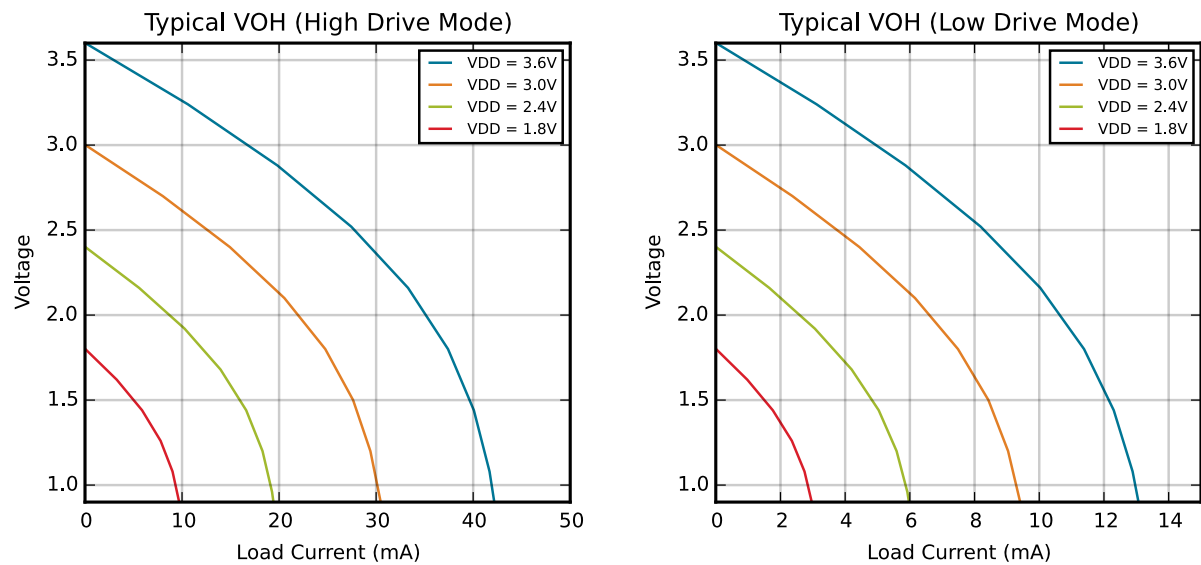
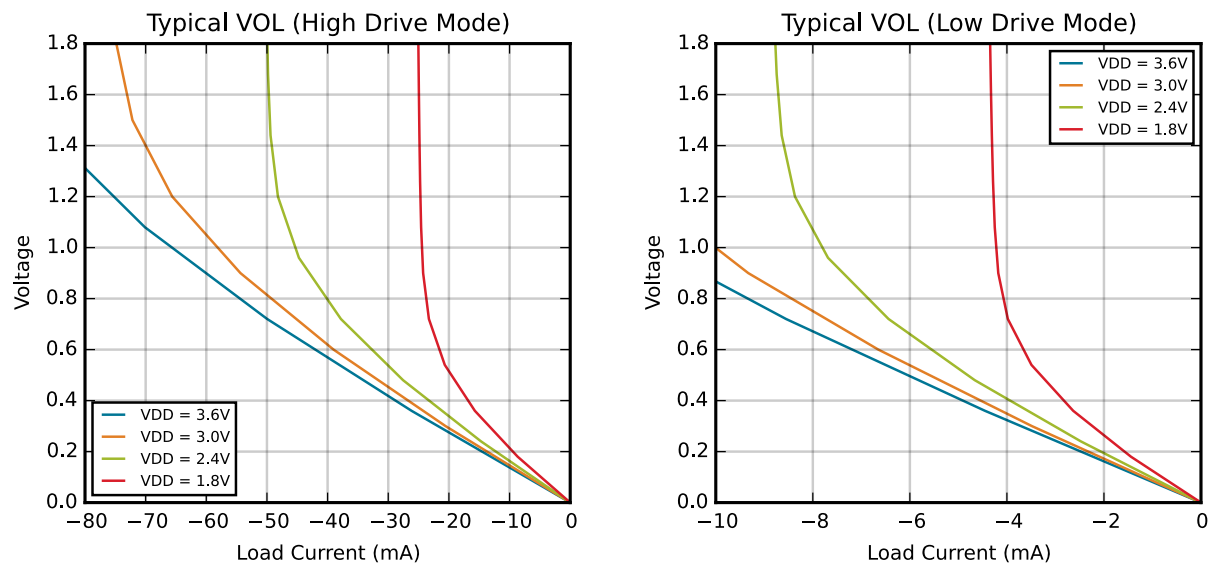

Figure 4.2. Typical  $V_{OH}$  Curves
Figure 4.3. Typical  $V_{OL}$  Curves
1. See Figure 4.2 Typical VOH Curves on page 24 and Figure 4.3 Typical VOL Curves on page 25 for more information.